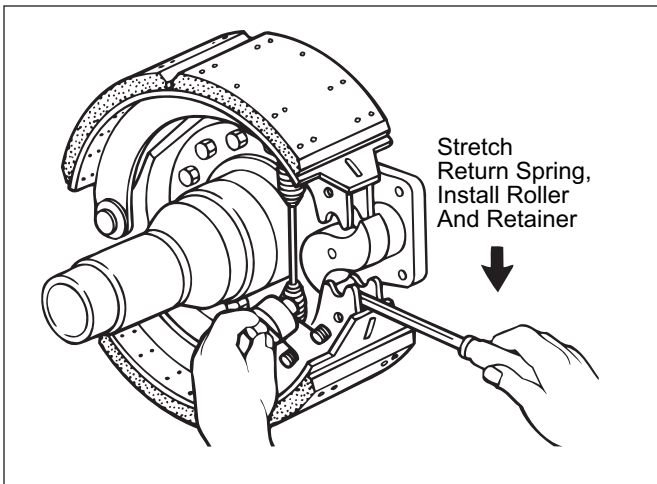

Figure 65. Shoe Return Spring Installation
7. Using a lever or large screwdriver, stretch shoe return spring to allow insertion of new pin and roller, (or roller and retainer assembly) on the lower shoe web. Refer to Figure 65.